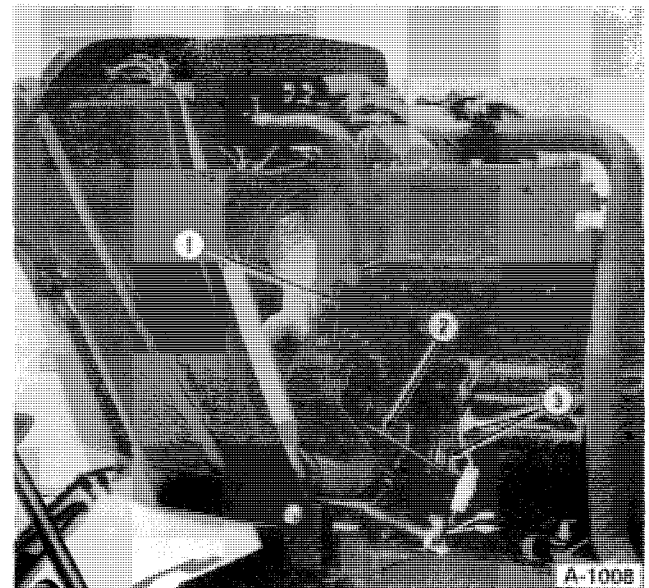

FIGURE 1-14
15. Disconnect the coolant temperature sensor wire, 1, from the sensor switch, Figure 1-14.
16. Remove the wires, 2, from the alternator assembly, Figure 1-14.
17. Remove the battery cable and wires, 3, from the starter motor, Figure 1-14.